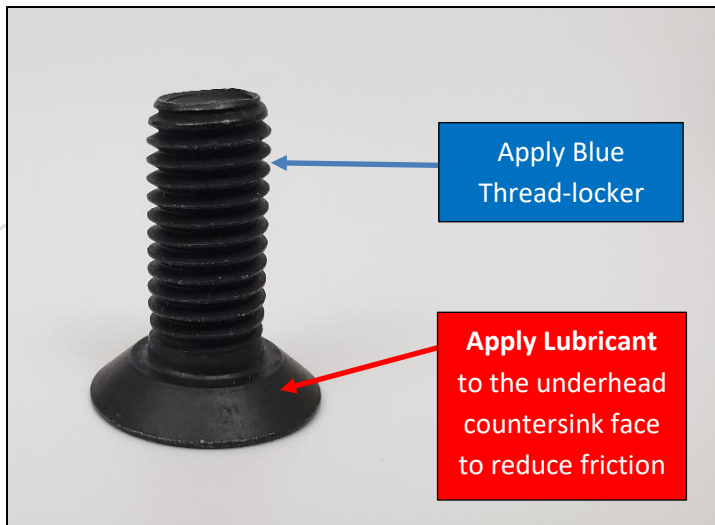

Figure 23: Countersink Bolts
- b. Apply blue thread-locker on the threads of the two T45 Torx countersink bolts (Figure 23 – see next page).
- c. Apply oil, grease, or assembly lube on the tapered head of the T45 Torx bolts to reduce friction during assembly (Figure 23 – see next page).